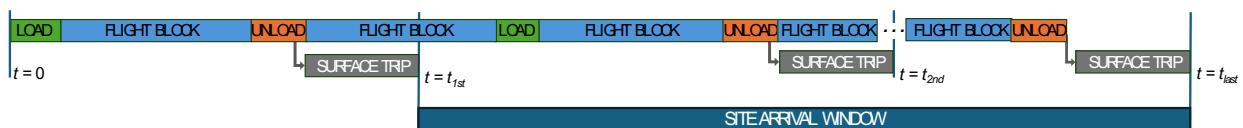

Figure 6. Block timeline of deployment
- For each aircraft type and landing site combination, what is the minimum amount of time needed to deliver the required cargo and personnel? Since the total amount of personnel and equipment exceeds the capacity of a single plane load, the timeline will resemble something like that shown in Figure 6.
8. For each of the aircraft types, how many sorties are required? A sortie is defined as loading the aircraft at the origin, flying to the destination airport, unloading, and returning to the origin. Repeated trips are illustrated in Figure 6. For each aircraft, consider passenger flights independently from cargo flights and assume that the total weight of passengers does not exceed the maximum weight capacity of the aircraft. In other words, some flights carry only passengers, and some flights carry only cargo. Also assume that each airfield can accommodate multiple aircraft landing at/around the same time.
9. For each aircraft type, what is the site arrival window (defined as the time that the first deployment arrives at the site, until the last deployment arrives at the site, see Figure 6)? What are the factors that influence this window? Assume that a sufficient mix of passengers and equipment will arrive together to make the surface movements once landed.